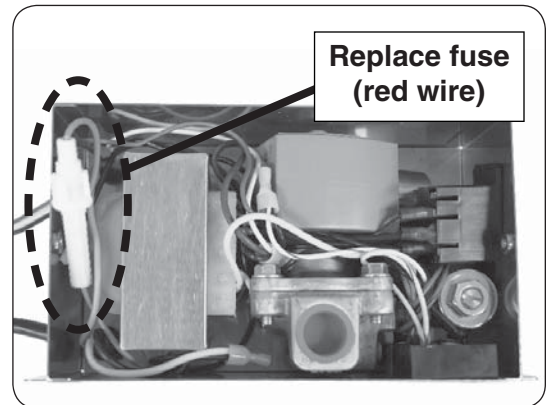

Fig. 35-2 Replace fuse
5. "Push in and twist" the fuse holder (red wire), exposing the fuse (see Fig. 35-2).